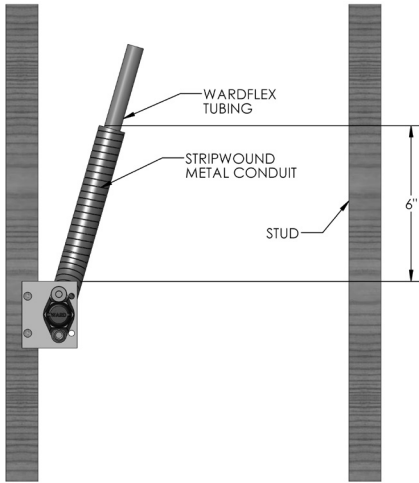

FIGURE 4.12
B. Stripwound conduit shall also be used to shield tubing from puncture threats when WARDFlex is installed in a concealed location where it cannot be displaced a minimum 3" from a potential puncture threat or the distance between supports is less than 24 inches. See Figure 4.12.